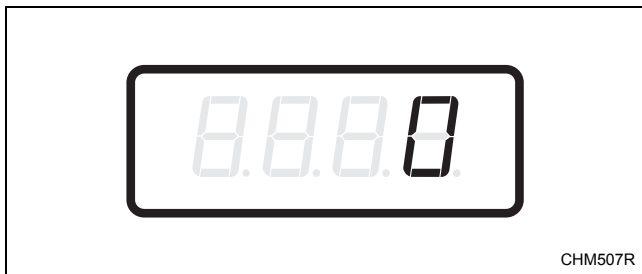

Figure 10
4. There are five digits in the Vend Price #1. The fifth digit will appear in the display and will flash one second on, one second off. Refer to *Figure 10*.